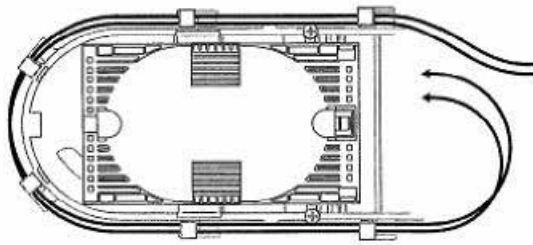

Figure 9c - Routing/Marking Bundles for Tray Entry
14.05 Temporarily install a splice tray into the tray support. While maintaining minimum bending radii, route a bundle up and into the tray. Place a mark on the bundle for the desired opening (this routing will provide sufficient working slack and bare fiber for splicing). See *Figure 9c*.